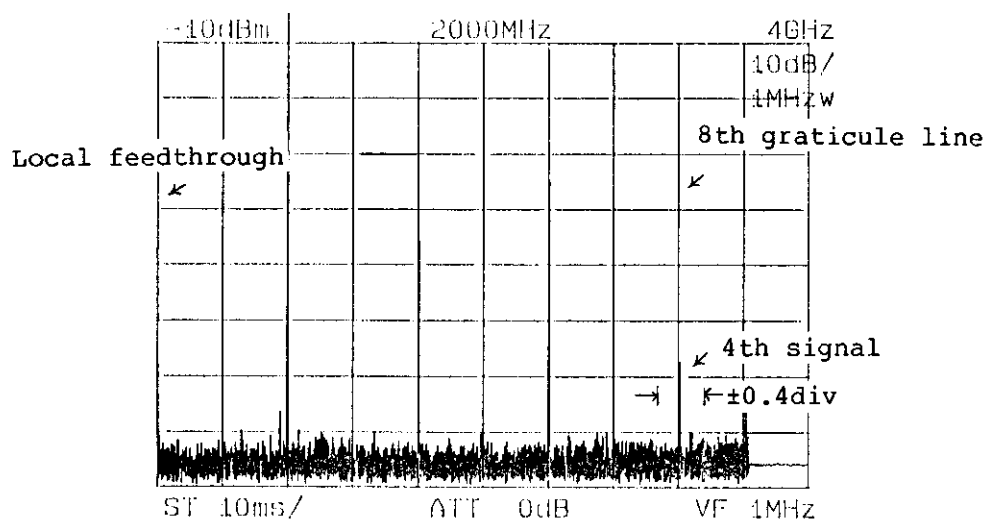

Figure 11-1 Frequency Span 4 GHz Test
Referring to Figure 11-1, connect the output of TR4511 synthesized signal source to the INPUT connector of the spectrum analyzer.
③ Set the output of TR4511 synthesized signal source to -5 dBm, 800 MHz, modulation off.
④ Turning the TUNING dial on the spectrum analyzer, adjust the local feedthrough (zero carrier wave) to position it on the leftmost graticule on the display screen. Check that the 4th signal (3.2 GHz) from the local feedthrough (without counting the feedthrough itself) is positioned on or within  $\pm 0.4$  division of the eighth graticule from the left most graticule (without counting the leftmost graticule itself). (See Figure 11-1.)